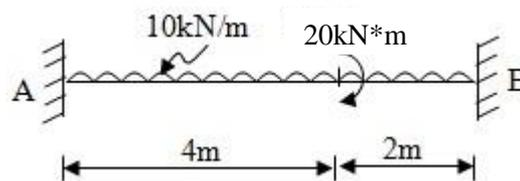

Fig 7
- (c) Find the fixed end moments for the beam loaded as shown in Fig.7. Draw shear force diagram and bending moment diagram of the beam. **07**